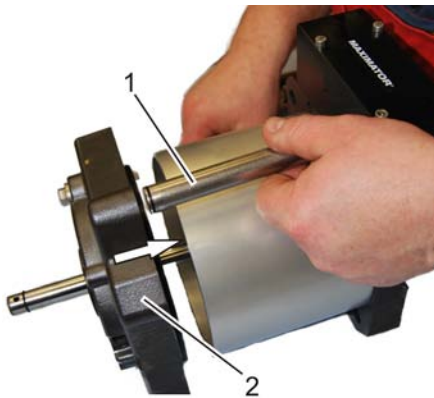

Fig. 81: Installing air pipes and lower cap
- 25.** Insert two air pipes (Fig. 81/1) with new and greased O-rings into air pipe bores of upper cap.
- 26.** Position lower cap (Fig. 81/2) on air cylinder and thread in air pipes (Fig. 81/1) and control tube.